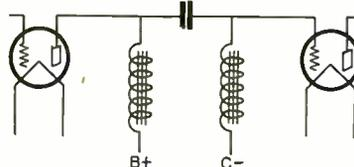

Fig. 2. Schematic diagram of a single stage tuned double impedance amplifier
In Fig. 2 we have a driver circuit of a little better design from the standpoint of feed-back. Undoubtedly, the plate coil could be made to give a
- FIG. 2 -
voltage. What actually happens is that the one condenser discharges through the load while the other is being charged. Hence if the broken line (Fig. 2) represents the potential of the point D with respect to O, the curves A,A₁ and B,B₁ will represent the potentials of A and B respectively